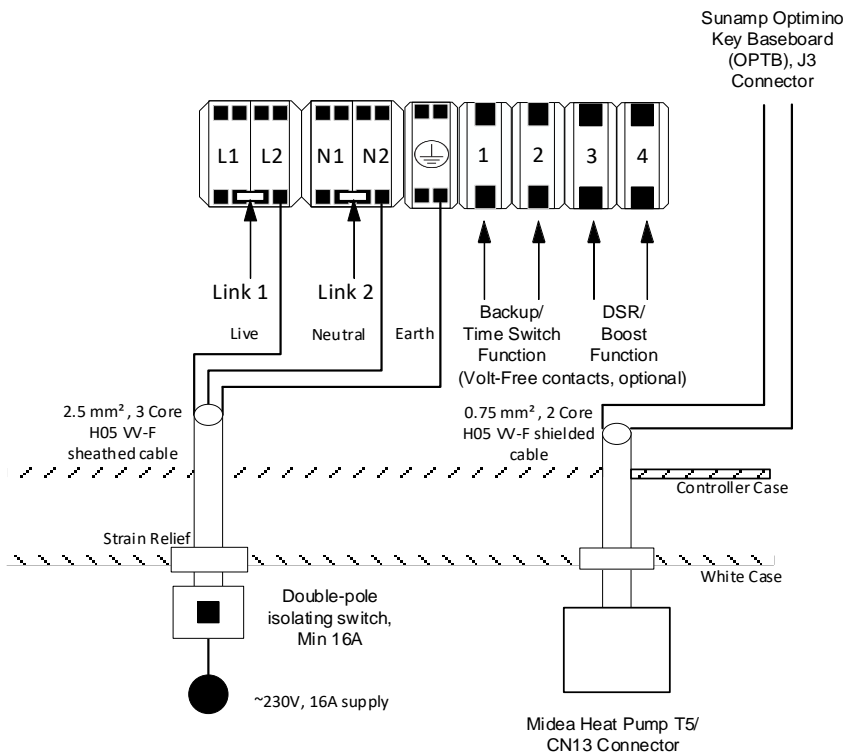

Figure MA.1 - Thermino xPlus with MA01 Optimino key
- Thermino xPlus with the “MA01” & “MA02” Optimino keys (D0084 – Section 6.4.2 for wiring instructions & Figures MA.1 & MA.2 below)
Using a 2-core shielded cable 0.75mm², the cable will act as a hot water heating tank sensor from the Sunamp Optimino Board (OPTB) – connector J3 into the Midea DHW Sensor T5/CN13 terminal (please refer to HP installation manual). Please run the wire into the heat battery appliance via the appliance case cabling grommets and then into the control box housing through the hole available. Secure the cables in terminals J3 on the Optimino Board; please see Figures MA.1 & MA.2 below for reference.